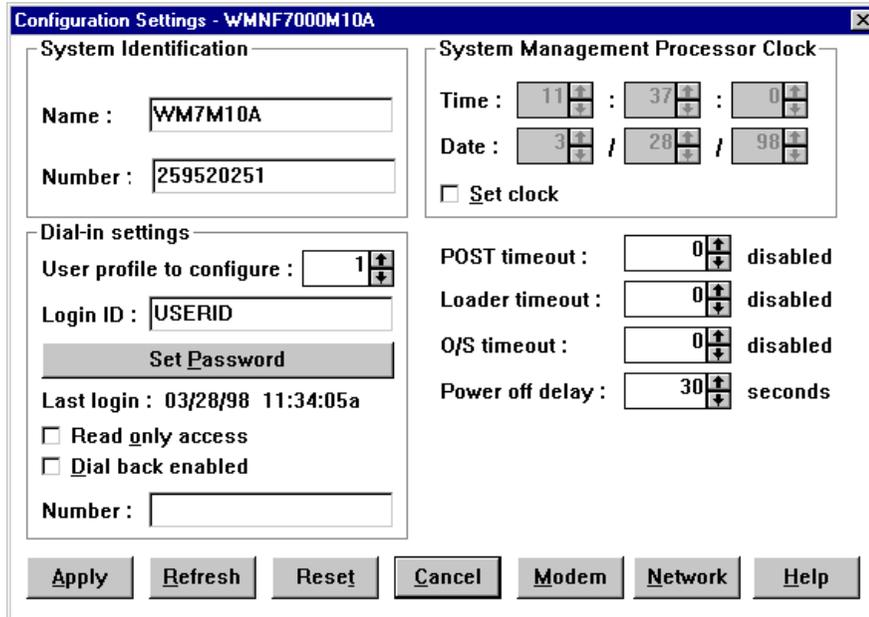

Figure 214. Configuration Setting in Netfinity Manager
1. From Netfinity Manager, open the Advanced System Management window and double-click **Configuration Settings**. Figure 214 appears: